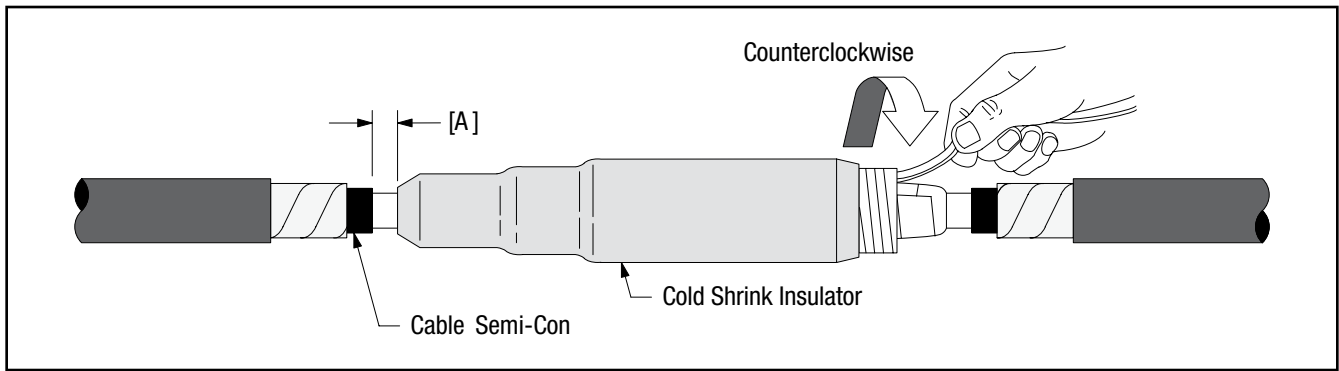

Figure 11
7.1 Slide cold shrink insulator short tube with (tapered ends) over connector area. Align end of insulator (not core) at Dimension A, Table 3 and (Figure 11).
7.2 Remove core UNWINDING, COUNTERCLOCKWISE (Figure 11).